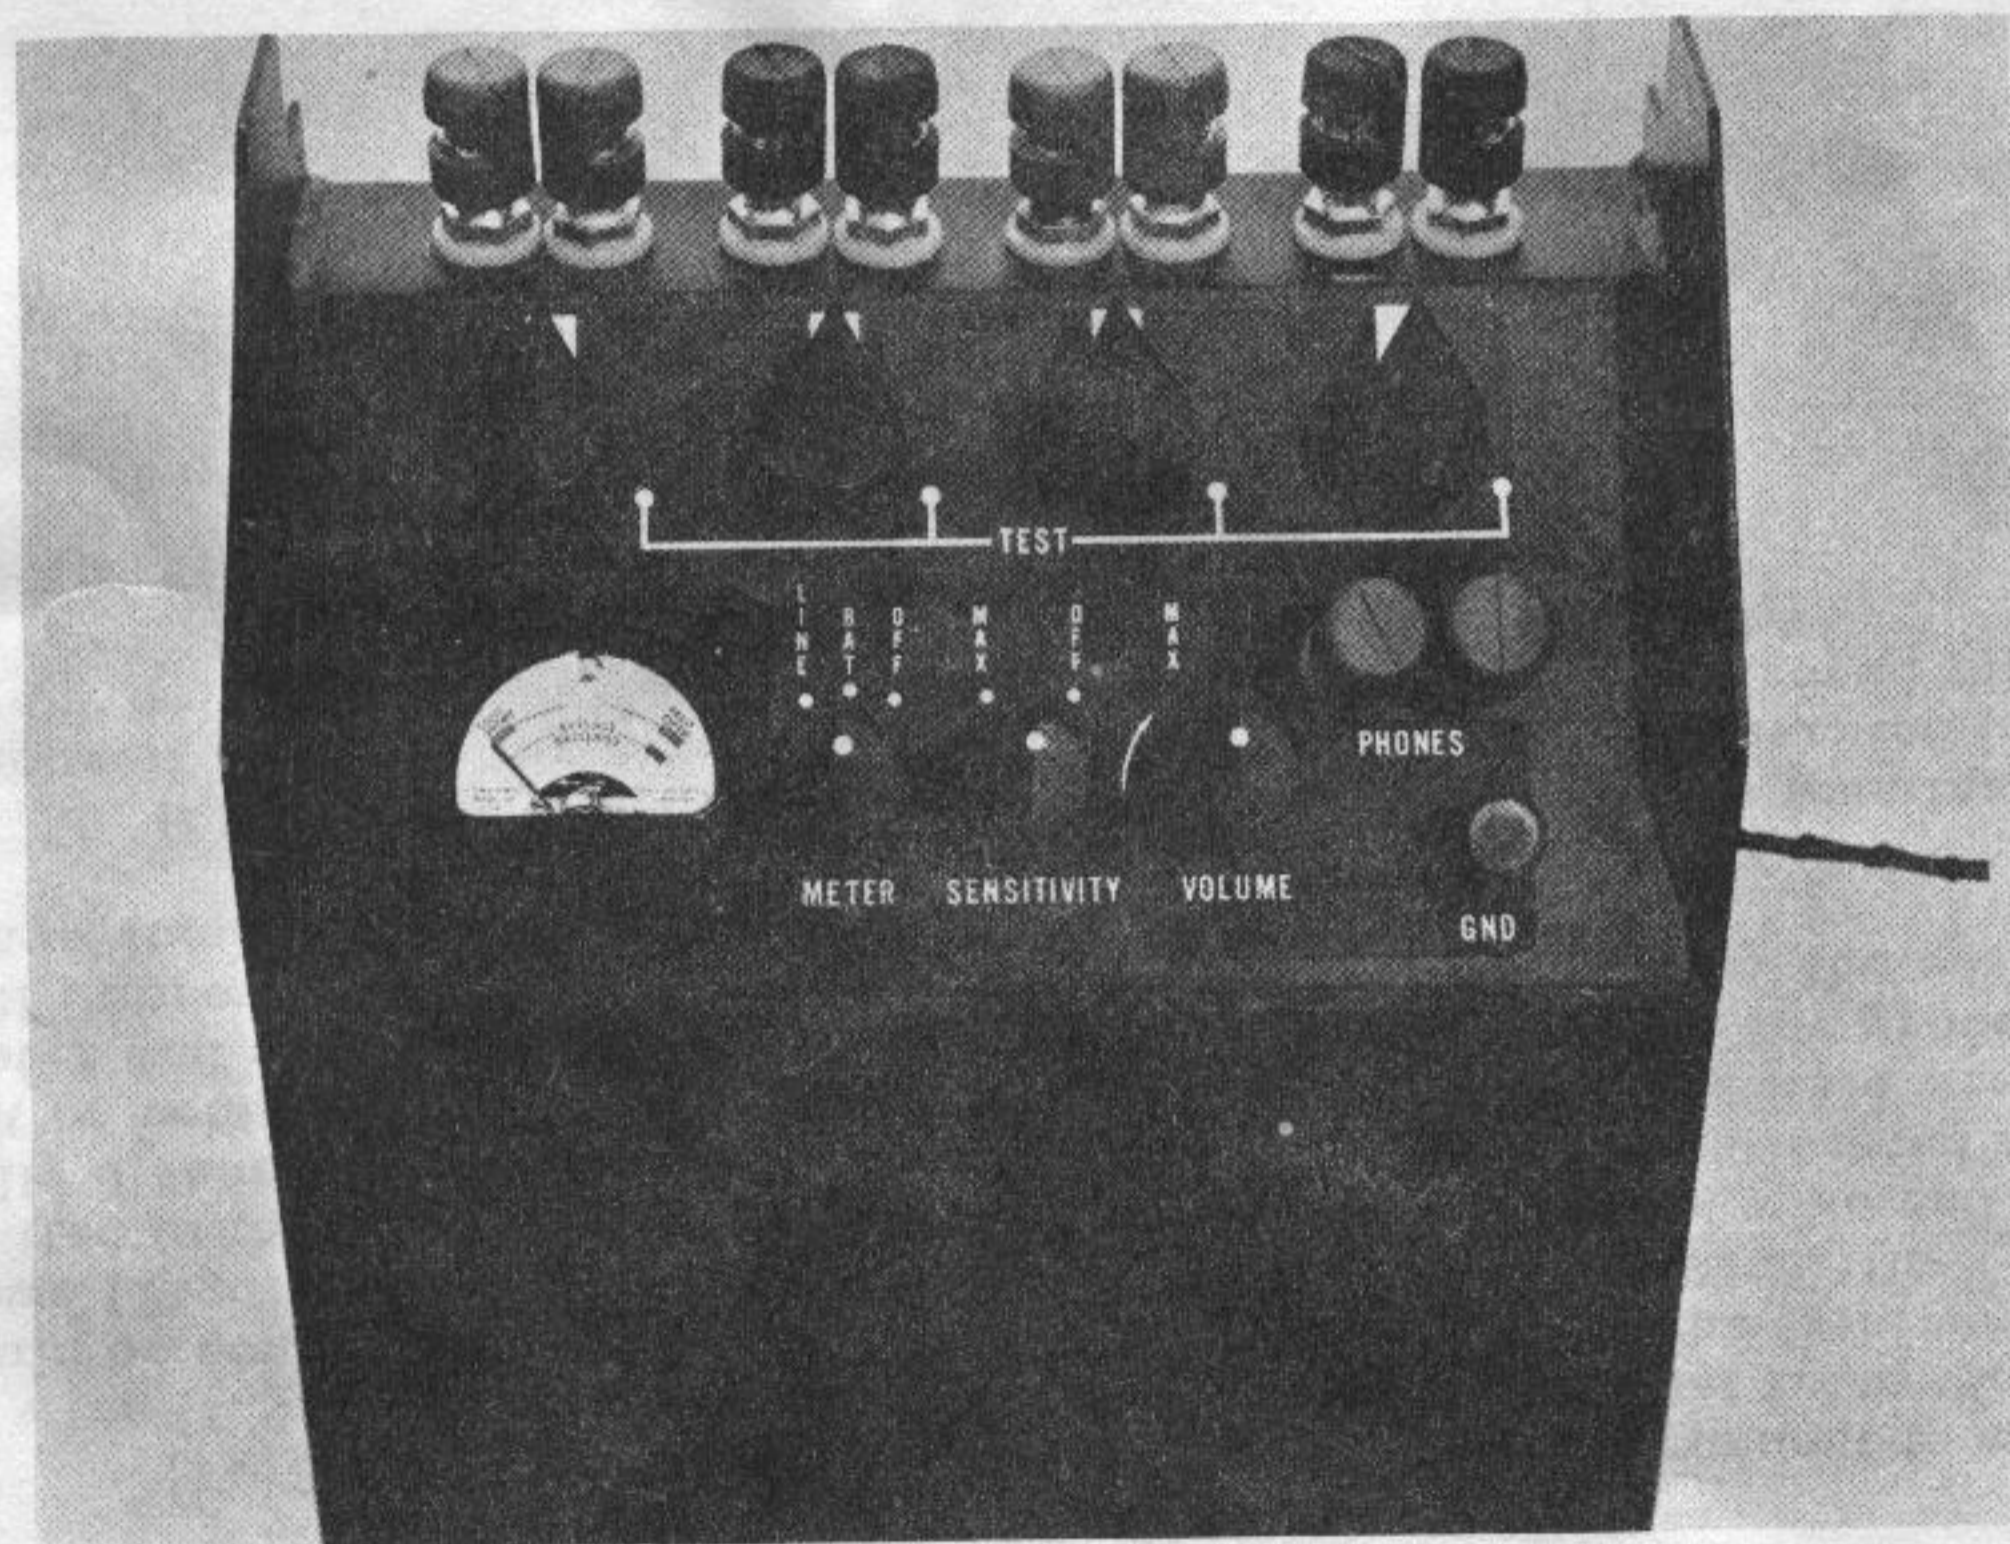

Figure 9. Operating Controls and Indicators
4.2 OPERATING CONTROLS AND INDICATORS (FIGURE 9)